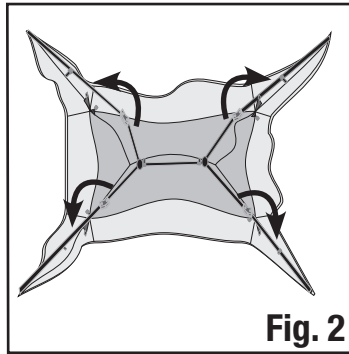

Fig. 2
- Unfold the arms of the shelter downward until they lay flat on the ground. (Fig. 2)
- Fold the leg poles and the side roof poles to the center roof pole. (Fig. 2 and 1)